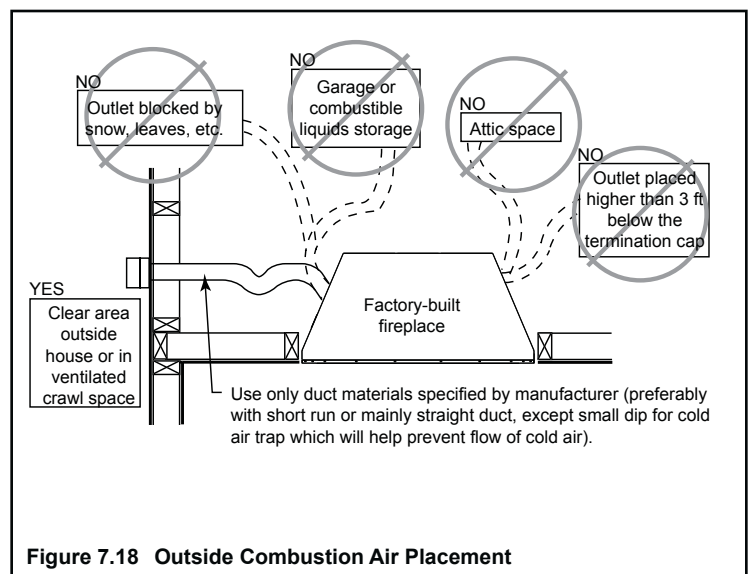

Figure 7.18 Outside Combustion Air Placement
- Locate the outside air hoods in a clear area, preferably into prevailing wind during the heating season. Refer to Figure 5.2 and Figure 7.18.